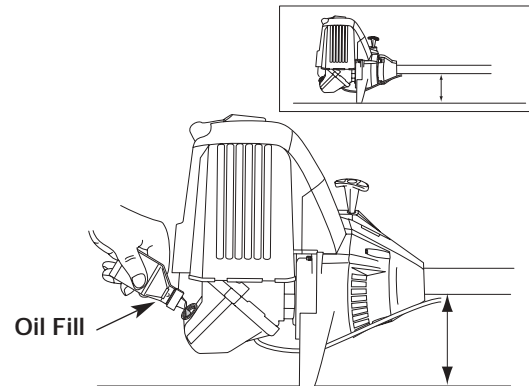

Figure 9
4. Pour the entire bottle of oil into the oil fill hole. See Figure 9.